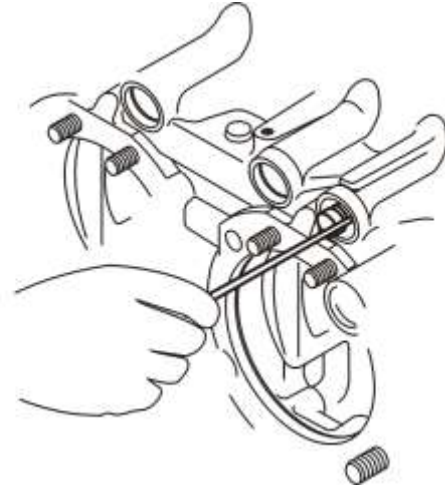

Figure 12
- (3) Push the hollow end of the Tappet Assembly Tool over the hydraulic tappet plunger and withdraw the plunger.
- (4) Bend a right angle in one end of a piece of wire and insert this end into the space between the plunger assembly and the tappet body. Turn the wire 90° to engage a coil of the spring and draw out the hydraulic tappet plunger assembly. Refer to Figure 12.